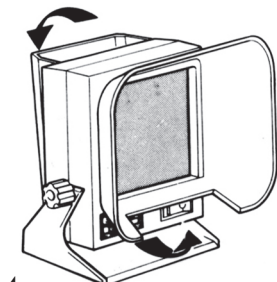

Fig. 4.
6. Adjust the angle as in Fig 4.